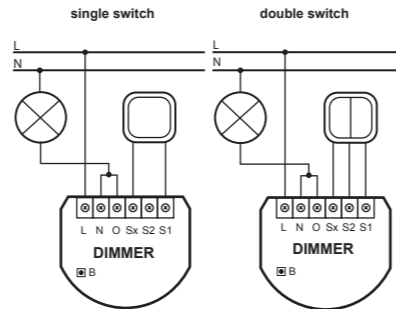
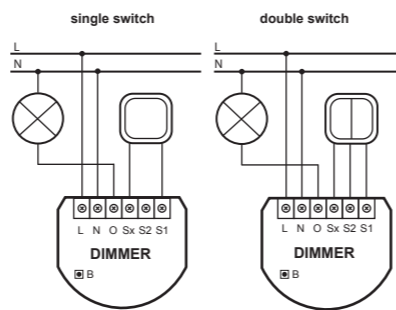

Fig.1 Wiring diagram for connecting the Dimmer - 2-wire connection
Fig.2 Wiring diagram for connecting the Dimmer - 3-wire connection
- Arrange the antenna (tips are presented below diagrams of fig. 1 and 2)
Connect the device in accordance with the wiring diagram presented in Fig. 1. or Fig. 2. Switch on the mains voltage of 230V.